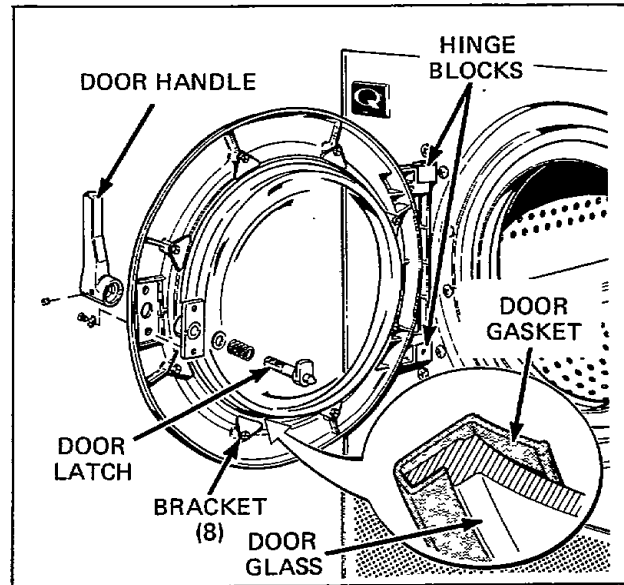

Figure 5
#### 7. DOOR LATCH AND HANDLE (Refer to Figure 5)
- b. For door shown in *Figure 5*: Open loading door and remove eight bracket screws holding door glass and gasket to door.
- b. For door shown in *Figure 5*: Open loading door, loosen setscrew in lower hinge block and remove hinge pin.